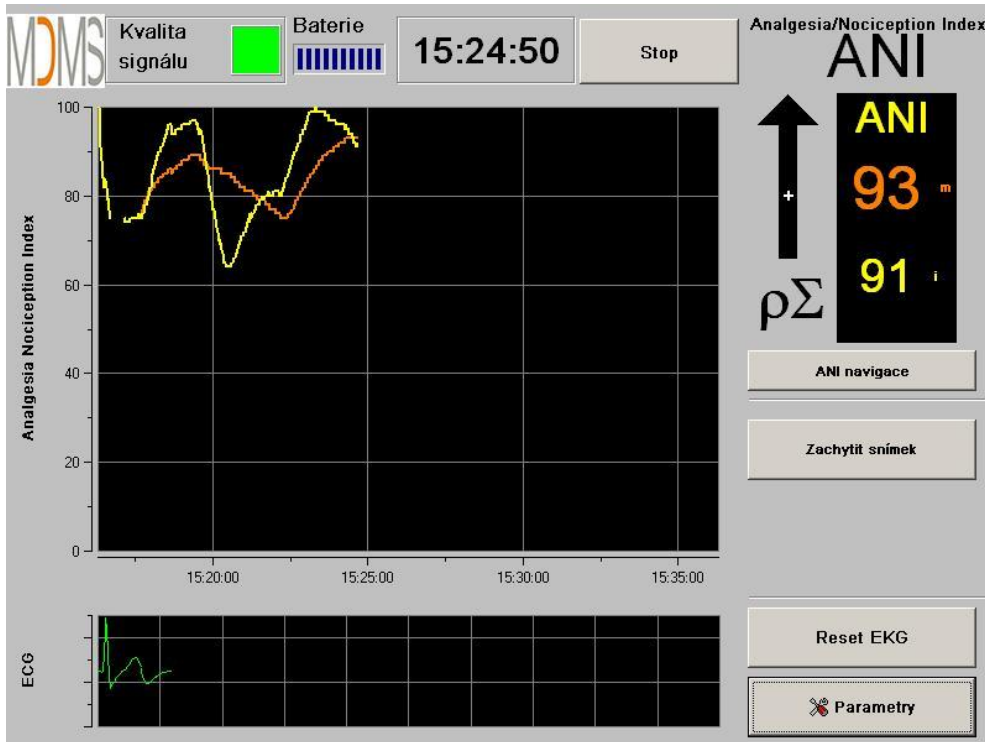

Figure 30
- **"Classic" mode** : no energy, no respiratory pattern (figure 30)